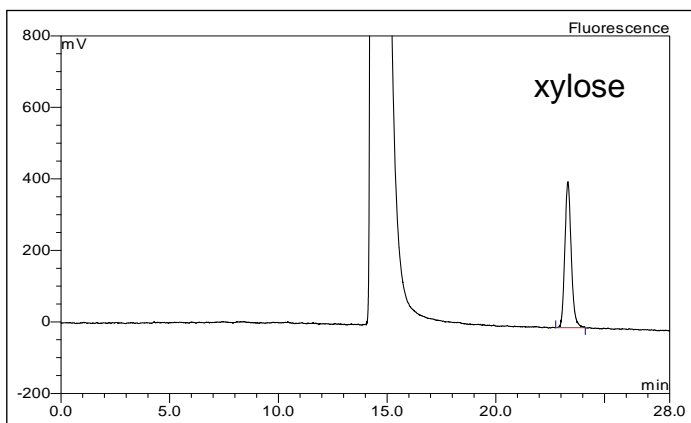

Figure 3: 2-AA fluorescence chromatogram of monosaccharide internal reference xylose (Xyl).
6. The use of xylose as an internal standard (Figure 3) allows samples to be compared directly. This allows compensation for any pipetting/sample preparation errors that may have occurred during sample processing.